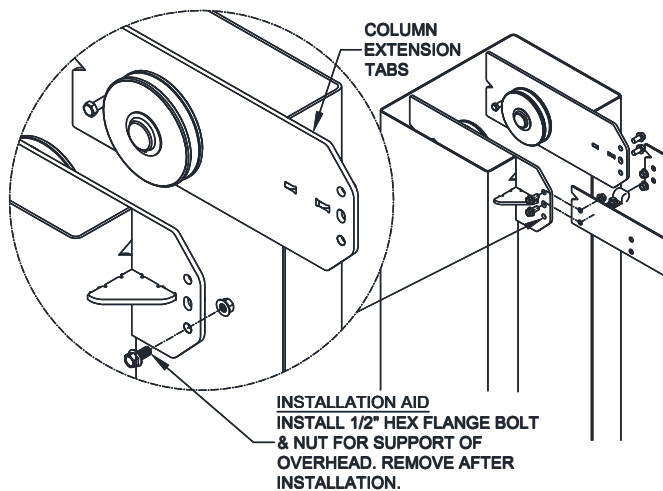

Fig. 6 – Overhead Assembly
- 25) Before raising overhead into position, install 4 (2 per column) hex flange bolts and nuts in bottom hole of column extension tab (**see Fig. 6 Installation Aid**) for temporary support of overhead. Lift overhead assembly up into position and install with 8 (4 per column) 1/2-13 x 1" lg hex flange bolts and hex flange nuts per side as shown in **Fig. 6**. For the wide position, the outer overhead holes will be used. For the 6" reduced width, use one set of outer overhead holes and one set of inner overhead holes. For the narrow width, use the inner sets of overhead holes.